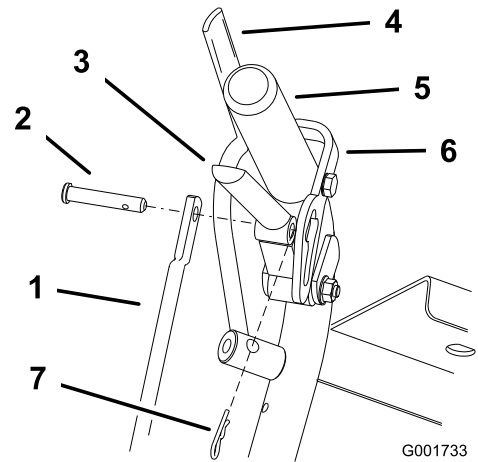

Figure 42
4. Place the clevis pin into the drive lever (Figure 42).
6. Install the hairpin cotter pin between the drive levers and the neutral locks and into the clevis pins (Figure 42).
1. Adjust the rod length by releasing the drive lever and removing the hairpin cotter pin and clevis pin. Rotate the rod in the rod fitting (Figure 42).